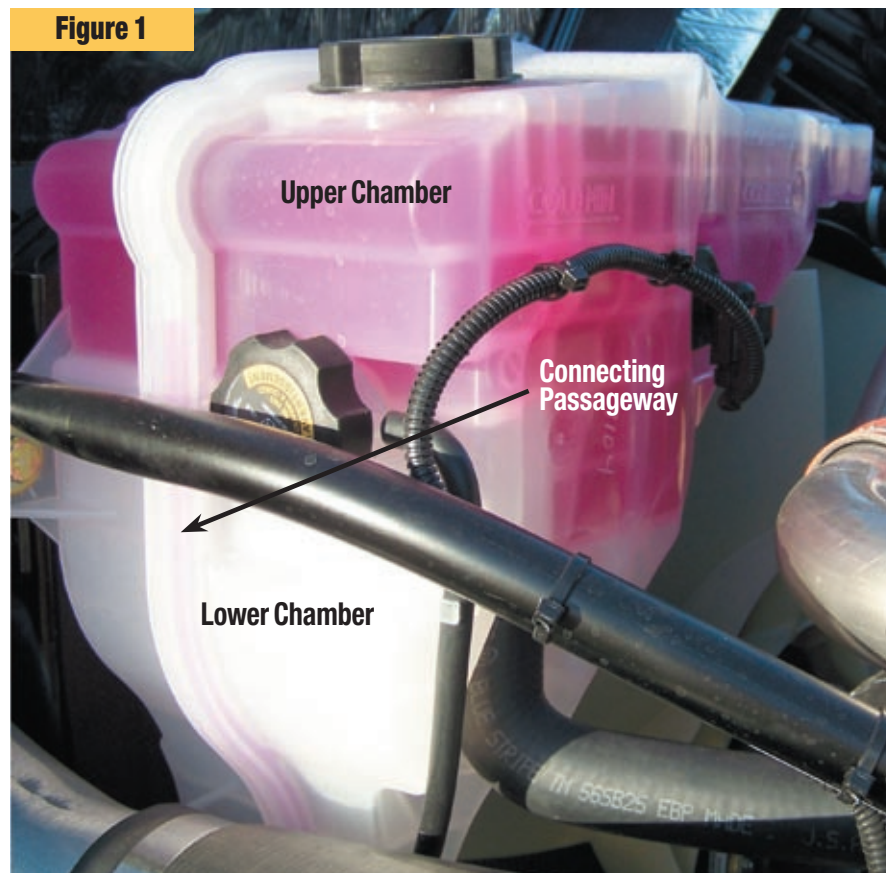

Figure 1
■ New Surge Tank Design (see Figure 1)